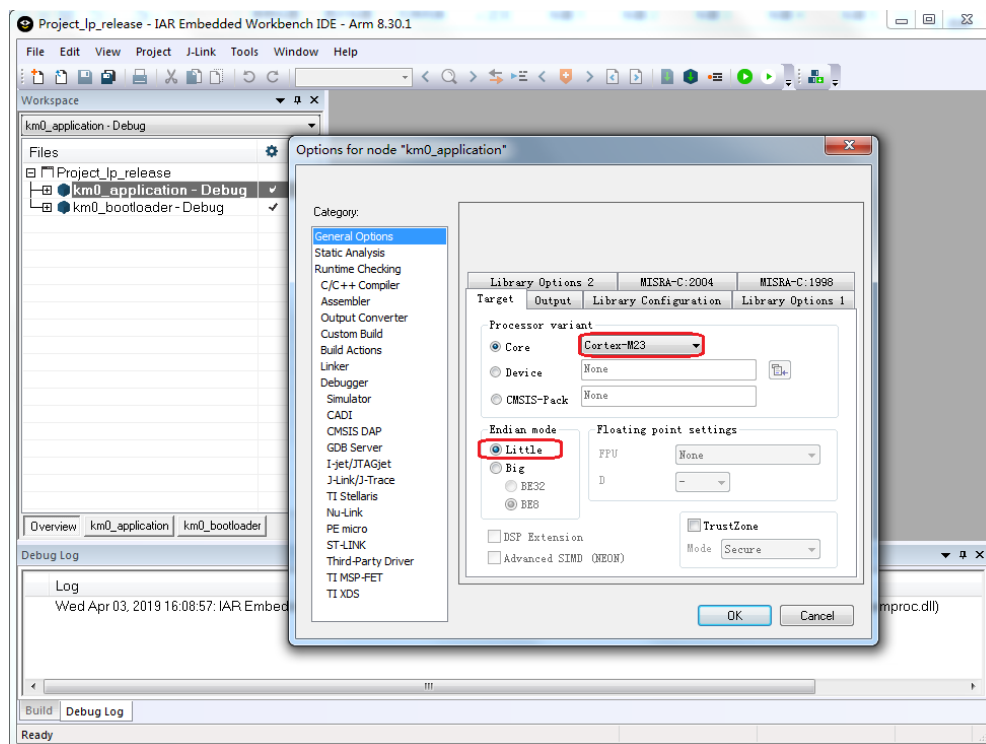

Fig 4-1 KM0 processor options
- (1) Open **ambd\_amazon-freertos/projects/realtek/amebaD/IAR/aws\_demos/Project\_lp\_release.eww**.
- (2) Make sure km0\_bootloader and km0\_application are in Workspace. Click **Project > Options, General Options > Target > Processor Variant > Core**, verify the CPU configurations according to Fig 4-1